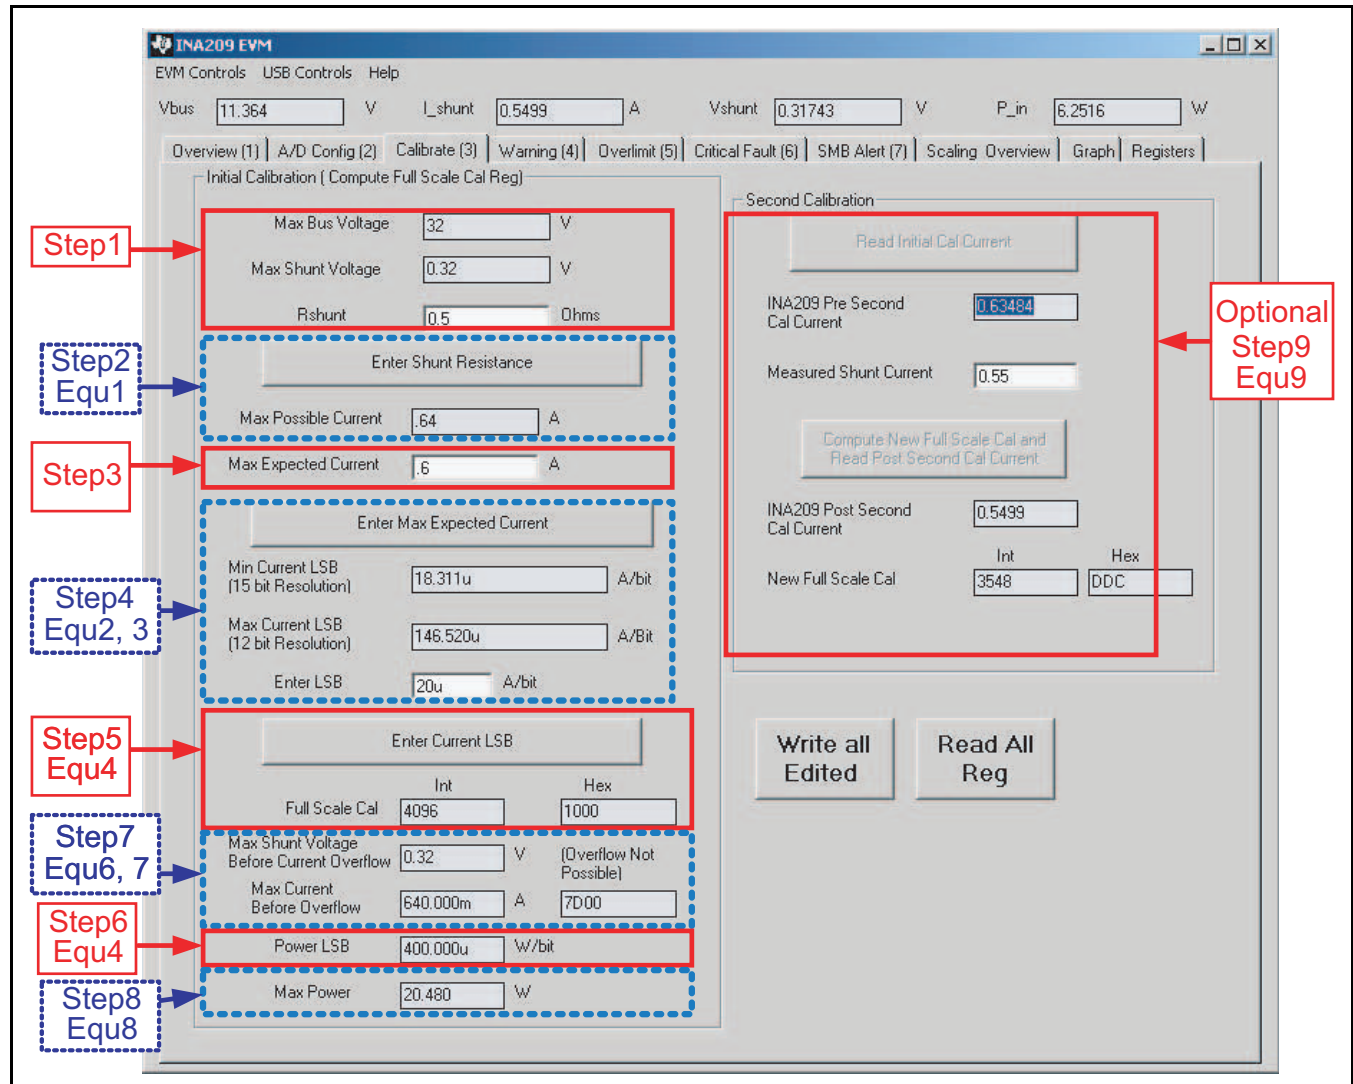

Figure 25. INA209 Calibration Software Automatically Computes Calibration Steps 1-9
**Calibration Example 1: Calibrating the INA209 with no possibility for overflow. (Note that the numbers used in this example are the same used with the INA209EVM software as shown in Figure 25.**
$$\text{Max\_Current\_Before\_Overflow} = 0.64 \text{ (Note: This result is displayed by software as seen in Figure 25.)}$$
$$\text{Max\_ShuntVoltage\_Before\_Overflow} = 0.32 \text{ (Note: This result is displayed by software as seen in Figure 25.)}$$
Figure 25 illustrates how to perform the same procedure discussed in this example using the automated INA209EVM software. Note that the same numbers used in the nine-step example are used in the software example in Figure 25. Also note that Figure 25 illustrates which results correspond to which step (for example, the information entered in Step 1 is enclosed in a box in Figure 25 and labeled).